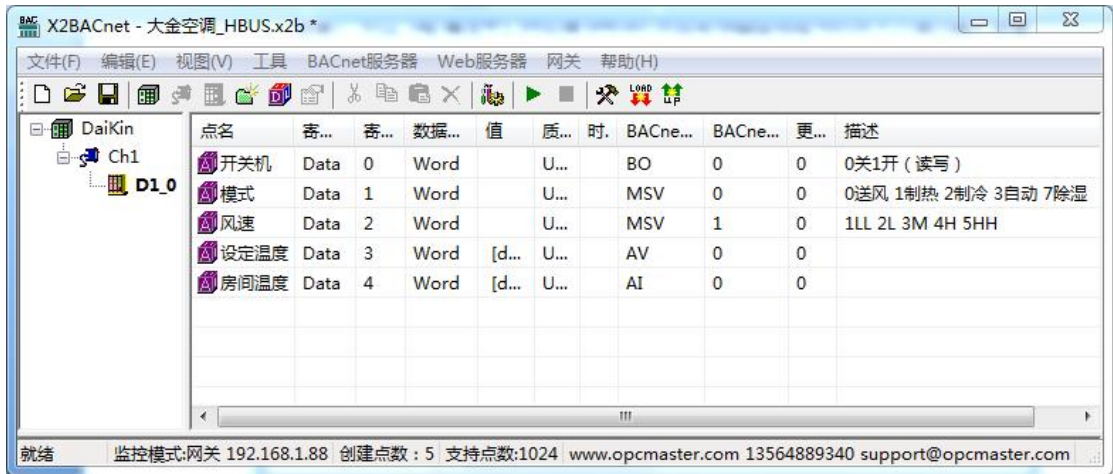

Figure 2-18-7 Tag list
Click the menu **Edit** and select the **New Tag...** or click the button  **New Tag** in the toolbar. In the popup dialog **"Tag Properties"**, set the **Collection** and **Transfer(BACnet Server)** parameters, as the following Figure 2-18-7 shows.
- **Date Type:** Boolean\Word\Short\Dword\Long\Float and Double ,as the following Figure 2-18-7 shows.
- **Mask Value:** Check single box "Mask Value" to pick up a bit from 0 to 15 of some register if necessary,as the following Figure 2-18-7 shows.
Note: In the above Tag attributes, the base address of the BACnet slave register on the forwarding end can be allocated starting from 0. The label establishment is completed, as shown in Figure 2-18-7.